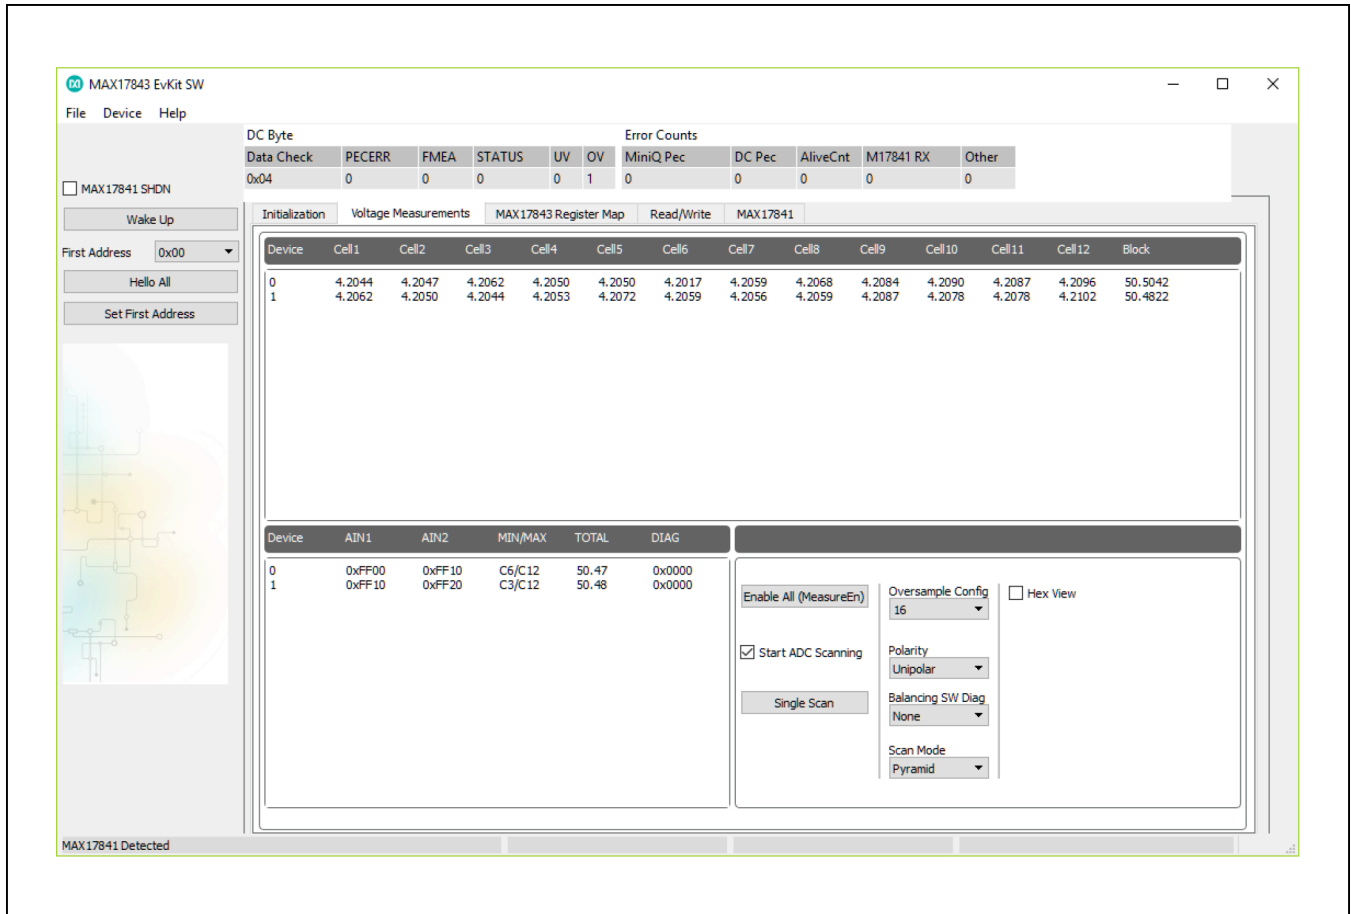

Figure 15. MAX17843 Evaluation Kit Software (Voltage Measurements Tab—OV Flag)
- 16) In the MAX17843 Evaluation Kit Software GUI, at the top OV flag also sets to 1 under the **OV** field (Figure 15).